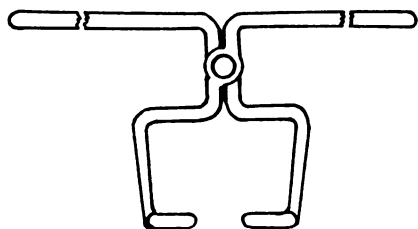

FIG. 1—THE CRUCIBLE TONGS
the carbide hopper with calcium carbide. The $\frac{1}{2}$ -inch feeds the best. Then cut a rubber gasket to fit the plate (F) and bolt this plate down tight. Then fill the tank half full of water and close valve (S) tight. See that angle valve (B) is shut. Then pull feed lever (J) out. This allows the slotted part of the feeder to come exactly under the 2-inch pipe from the carbide hopper. Then pull the lever back and this pulls the feeder in the position as shown in Fig. 1, allowing the carbide that is in the slot to drop in the water. The proper working pressure for welding is five to fifteen pounds, and the safety valve set at twenty pounds above this amount prevents any loss of gas and at the same time takes away any danger of bursting the tank. A few pulls of the feed lever will bring up the required pressure and then an occasional pull will keep it up, as the gas is being used out.
The furnace shown here has the fault that it is somewhat difficult to remove the crucibles, but this may be largely eliminated by forming the tongs as shown in Fig. 1.